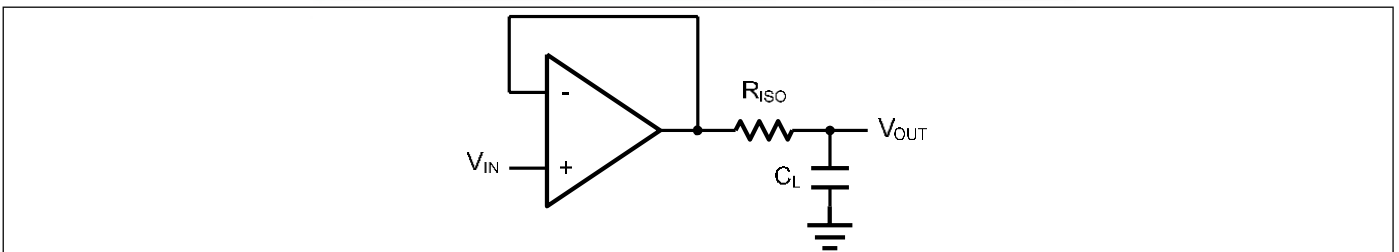
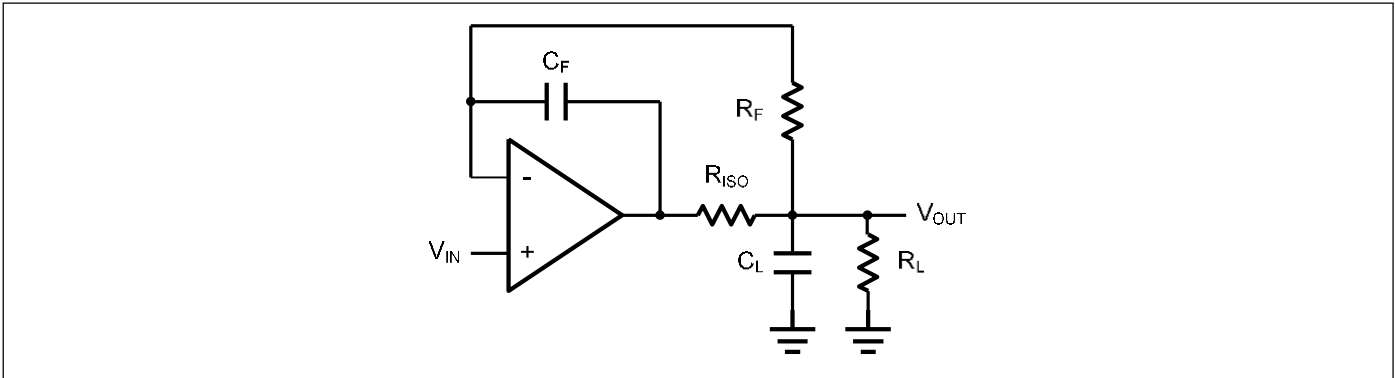

Figure 2. Indirectly Driving a Capacitive Load Using Isolation Resistor
Figure 3. Indirectly Driving a Capacitive Load with DC Accuracy
The MA852X family is optimized for bandwidth and speed, not for driving capacitive loads. Output capacitance will create a pole in the amplifier's feedback path, leading to excessive peaking and potential oscillation. If dealing with load capacitance is a requirement of the application, the two strategies to consider are (1) using a small resistor in series with the amplifier's output and the load capacitance and (2) reducing the bandwidth of the amplifier's feedback loop by increasing the overall noise gain. Figure 2. shows a unity gain follower using the series resistor strategy. The resistor isolates the output from the capacitance and, more importantly, creates a zero in the feedback path that compensates for the pole created by the output capacitance.
The circuit in Figure 3 is an improvement to the one in Figure 2.  $R_F$  provides the DC accuracy by feed-forward the  $V_{IN}$  to  $R_L$ .  $C_F$  and  $R_{ISO}$  serve to counteract the loss of phase margin by feeding the high frequency component of the output signal back to the amplifier's inverting input, thereby preserving the phase margin in the overall feedback loop. Capacitive drive can be increased by increasing the value of  $C_F$ . This in turn will slow down the pulse response.